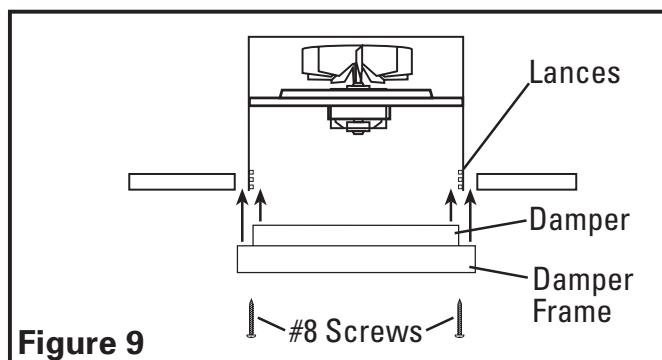

Figure 9
3. Line up the slots in the damper frame with the lances on the housing and install the damper frame and damper up into the housing. The damper will fit inside of the housing while the damper frame will fit outside of the housing. Secure in place by inserting the included #8 screws through the slots of the damper frame and into the lances of the housing (**Figure 9**).